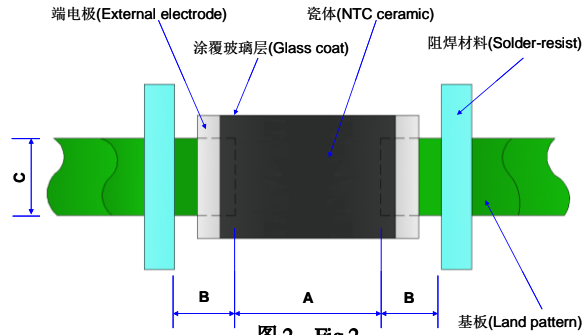

图2 Fig.2
- PCB焊盘：见图2和表1
- Recommended PCB pattern for reflow soldering: See Fig.2 and Table 1